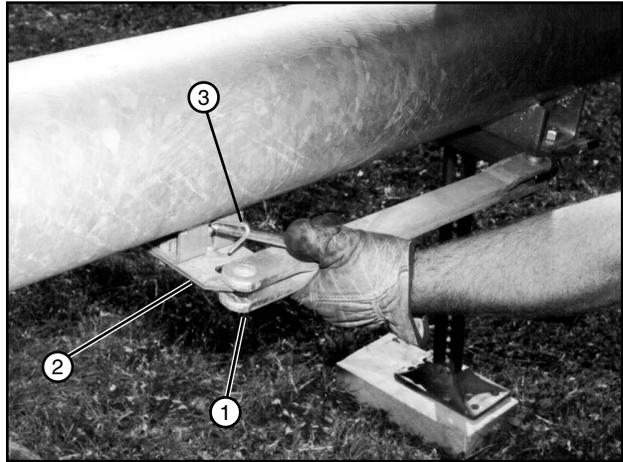

Figure 38-1 1. Tow Link Bar
5. Rotate tow link bar into the tow link carrier until the carrier spring latches into the hole in tow link bar. See Figure 38-1.